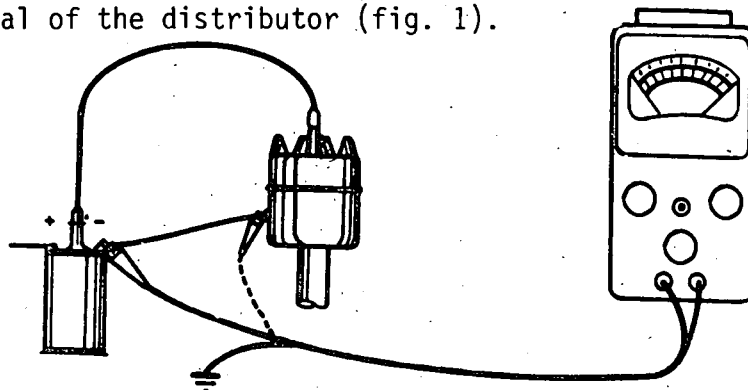

Fig. 1
- a) Connect the cables of the instrument: one to earth and the other to the output terminal of the coil or to the input terminal of the distributor (fig. 1).